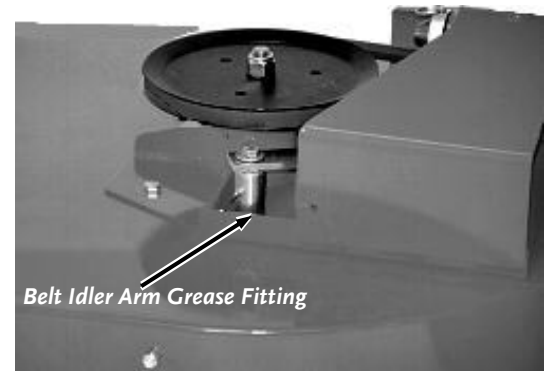

Figure 13
1. There is one Grease Fitting below the black Belt Guard that needs lubrication (**Figure 13**):